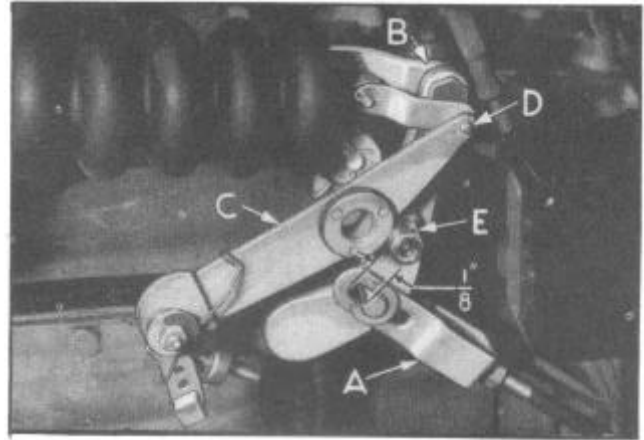

Figure 29--Bell Crank Yoke Adjustment
Figure 29 and pin (D) which retains valve lever (C) to bell crank and adjust play link (A) to obtain clearance between front of clevis pin and front end of slot in play link of  $1/8$ ".